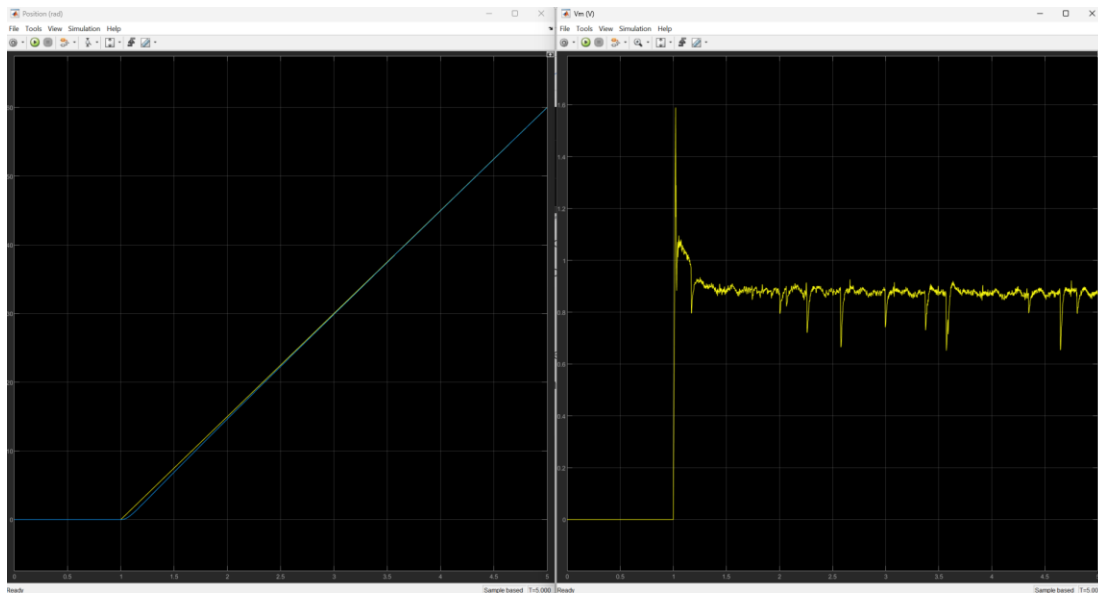

Figure 5: Screen capture of PID control with a Ramp response.
24. Save a Screenshot of the Ramp response, the response should be like Figure 5. Using the measurement tool in the scope, measure and write down the steady state error when using PID control. Take note of how long it takes for the error to go to 0 rad.